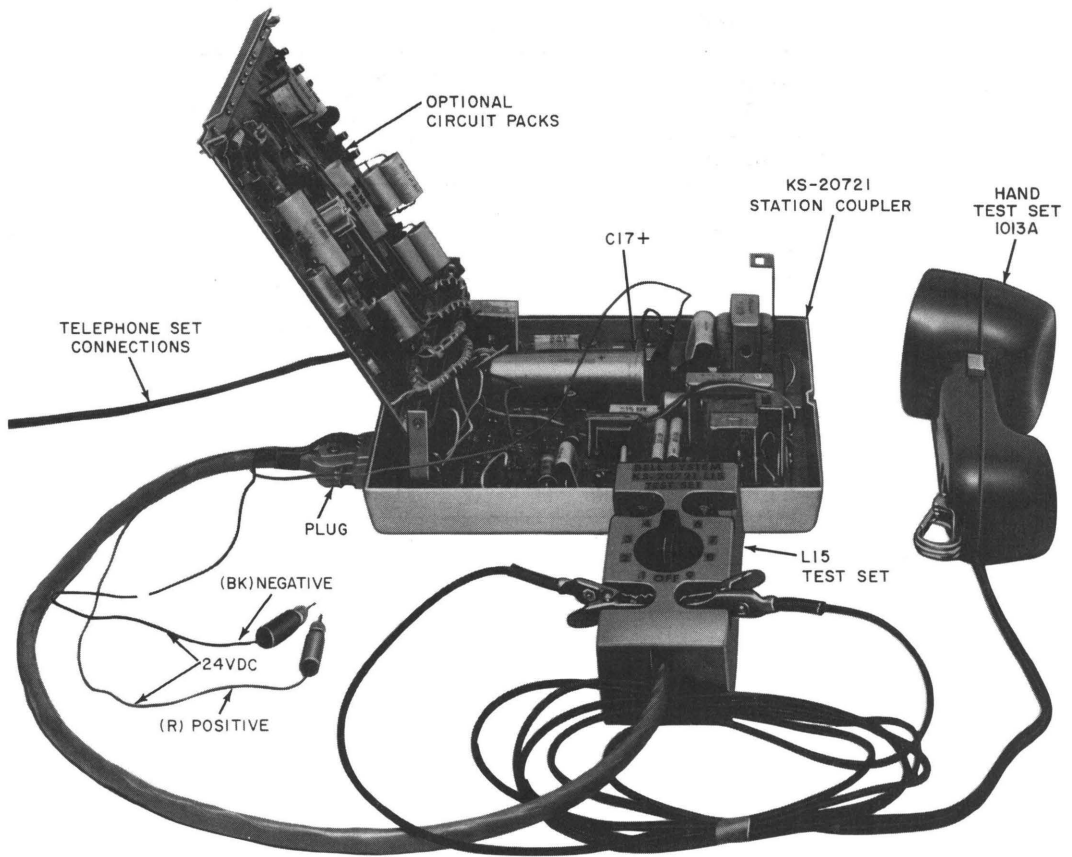

Fig. 5—KS-20721, List 3 Station Coupler With KS-20721, List 15 Test Set and 1013A Hand Test Set
- Set, Test, KS-20721, L15 (Fig. 5)—see 2.06.
**2.06** The KS-20721, List 15 test set plugs into the connector on the station coupler and is used with a 1013A hand test set (or equivalent) to test the operation of the coupler independent of the CPE (Fig. 5).
**4.06** The List 15 test set (Fig. 5 and 7), used with the 1013A hand test set (or equivalent) and a connecting cable terminated in a plug for connection to the station coupler, permits checkout of the coupler independent of the CPE.